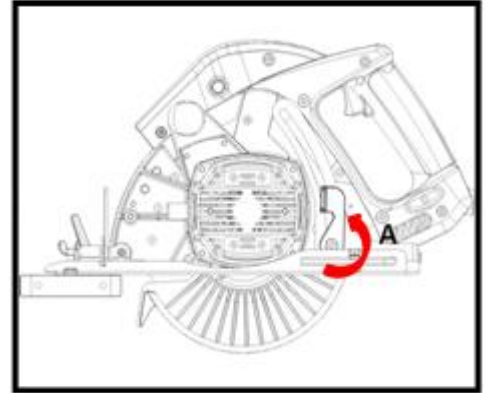

Fig.13
1. Pull up on the Lock Lever (A) to loosen the base plate. Fig.13